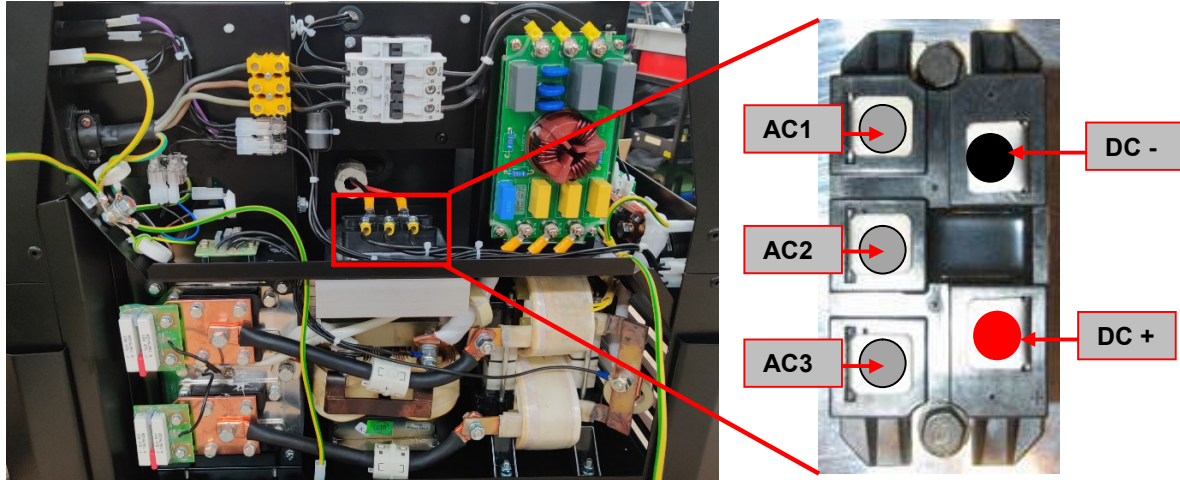

Figure 5 – Input Rectifier Bridge location and Test Points
3. Locate the Input Rectifier Bridge. See **Figure 5**.
4. Using the multimeter (diode test mode) perform the tests as detailed in **Test table 6**. See also **Figure 5** for terminals locations.
9. Using the multimeter in VAC and VDC mode perform the tests as indicated in **Test Table 7**. See **Figure 5** for correct test points location.